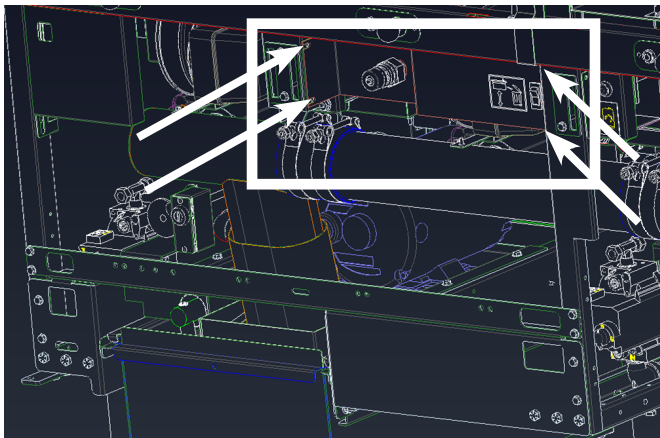

Figure 1
4. Attach new front dispose assembly using supplied screws (see Figure 1 for location of assembly. Location of screws depicted by arrows).